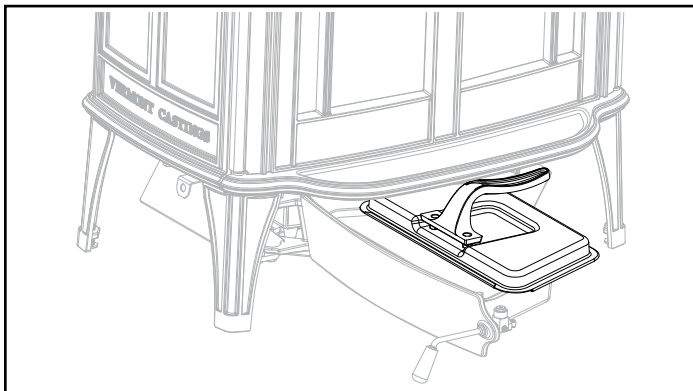

Figure 2.10 - Be sure the cover is securely attached before removing the ash pan.
- Slide the cover onto the pan, making sure it is securely closed, Figure 2.10.